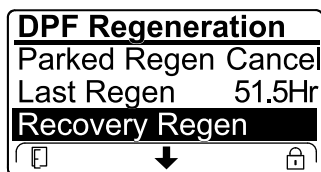

Figure 51
- If the engine computer has not requested a recovery regeneration and you scroll down to the RECOVERY REGEN option, the recovery regeneration locks and the lock icon (Figure 51) appears in the lower right corner of the InfoCenter.